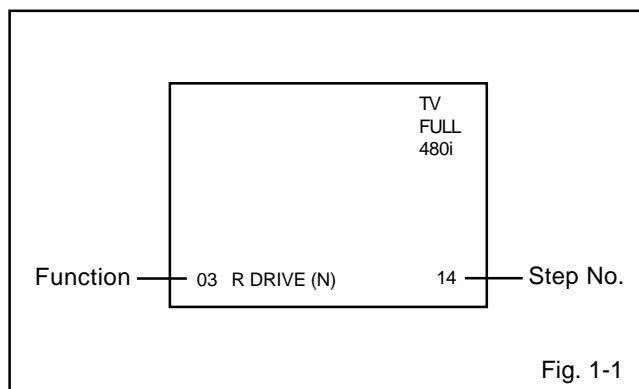

Fig. 1-1
2. Press the VOL. DOWN button on the set and the channel button **(9)** on the remote control for more than 2 seconds to display adjustment mode on the screen as shown in **Fig. 1-1**.
3. Activate the adjustment mode display of **Fig. 1-1** and press the channel button **(32)** on the remote control to select "BRIGHTNESS CENT".
9. Activate the adjustment mode display of **Fig. 1-1** and press the channel button **(32)** on the remote control to select "BRIGHTNESS CENT".
17. Activate the adjustment mode display of **Fig. 1-1** and press the channel button **(32)** on the remote control to select "BRIGHTNESS CENT".
27. Activate the adjustment mode display of **Fig. 1-1** and press the channel button **(32)** on the remote control to select "BRIGHTNESS CENT".
3. Activate the adjustment mode display of **Fig. 1-1** and press the channel button **(43)** on the remote control to select "CONTRAST MAX".
9. Activate the adjustment mode display of **Fig. 1-1** and press the channel button **(43)** on the remote control to select "CONTRAST MAX".
15. Activate the adjustment mode display of **Fig. 1-1** and press the channel button **(43)** on the remote control to select "CONTRAST MAX".
21. Activate the adjustment mode display of **Fig. 1-1** and press the channel button **(43)** on the remote control to select "CONTRAST MAX".